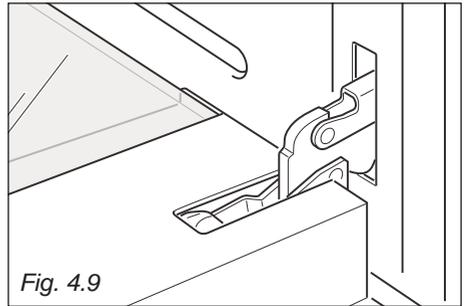

Fig. 4.9
- Open the door to the full extent (fig. 4.9).